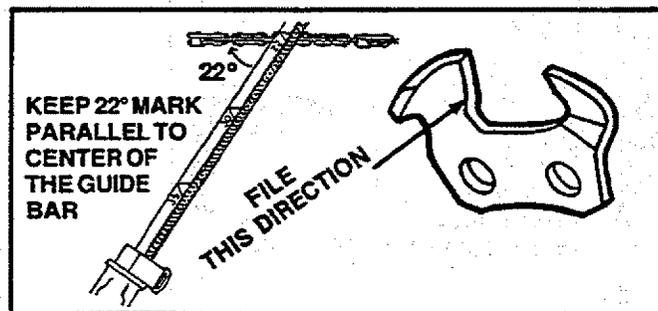

Figure 21
4. Hold the file holder level with the 22° guide mark parallel to guide bar. Figure 21.
5. File from inside toward outside of cutter, straight across, in one direction only. Use 2 or 3 strokes per side plate edge. Figure 21.